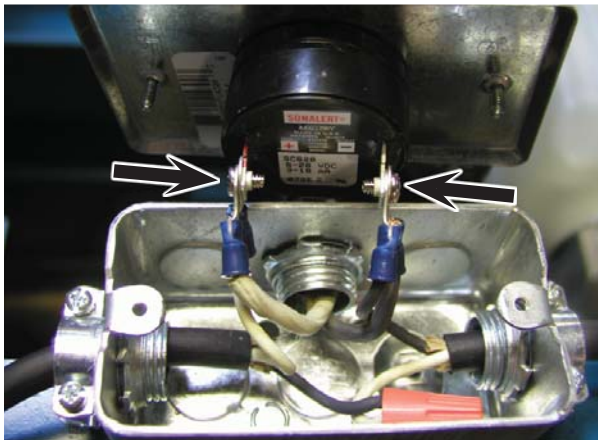

FIGURE 8
- Disconnect the wires from the audible alarm and remove the alarm/lid assembly. See Figure 8.